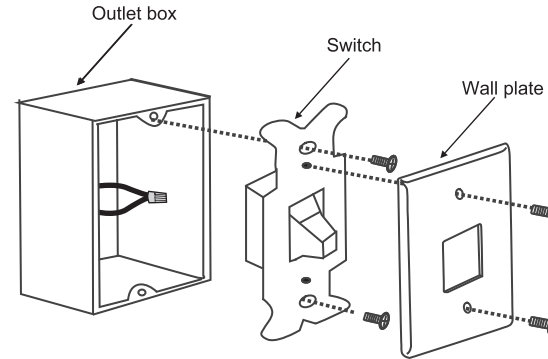

Fig. 23
Step 1. Remove the existing wall plate and the old switch from the wall outlet box. Wire nut the BLACK leads (hot) together and push back inside the outlet box. (**Fig. 23**)